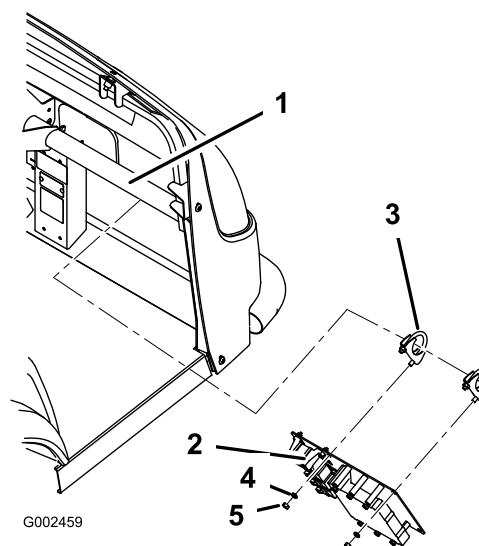

Figure 10
C. For the Workman 200 Spray System, install the mount plate using 2 U-bolt clamps (5/16 x 3/4 inch) 2 nuts (5/16 inch) and 2 lock washers (5/16 inch) as shown in Figure 10.